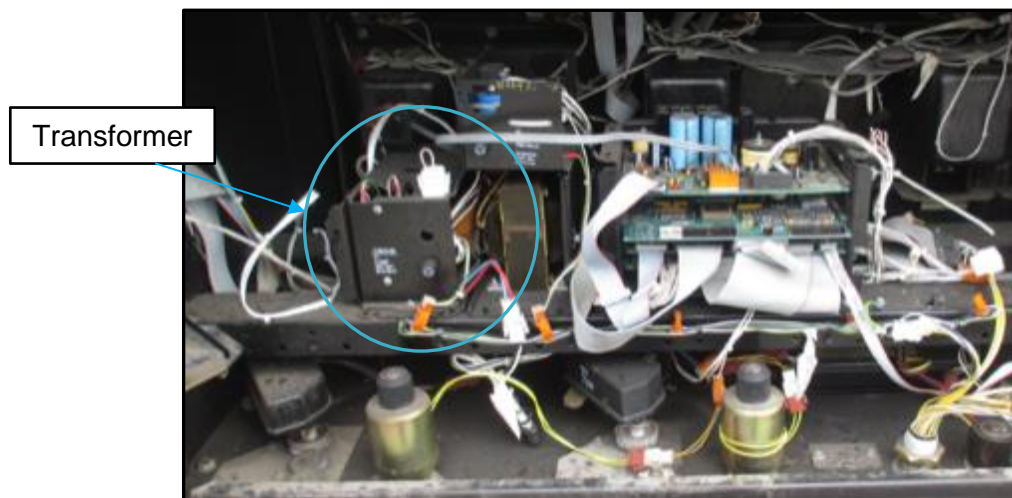

Fig. 1.13a – Location of transformer as viewed from A-Side
- 1) Identify the main transformer located next to the board cage inside the dispenser's electronics cabinet. (Fig. 1.13a)